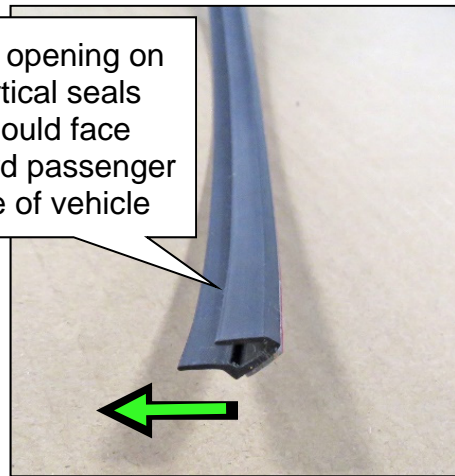

Figure 14
8. Install the vertical seals in the orientation shown in Figure 14.